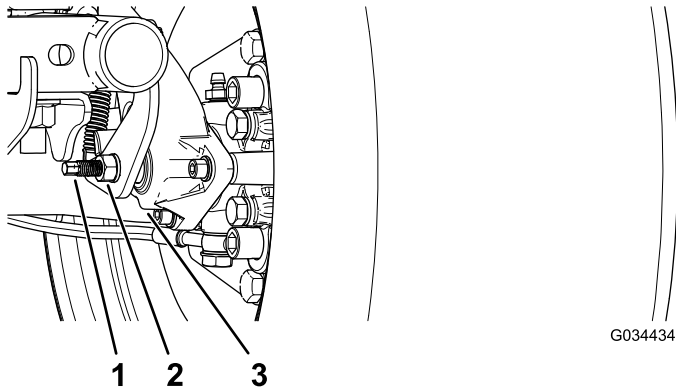

Figure 47
3. Using 2 wrenches, hold the adjusting post on the caliper in place with 1 wrench, and loosen the jam nut 1/4 turn with the other wrench (Figure 47).
4. While holding the adjusting post and the jam nut in place, turn the adjusting post in to tighten (Figure 47).
5. While holding the adjusting post and the jam nut in place, back off 1/4 turn (Figure 47).
6. While holding the adjusting post and the jam nut in place, tighten the jam nut (Figure 47).